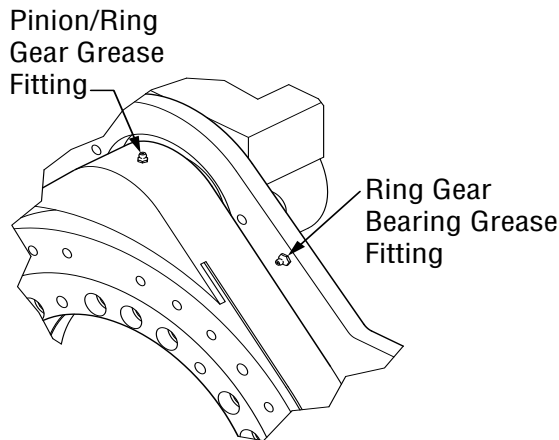

Figure 5-1, Grease Fitting Locations
4. To ensure proper greasing of gears and bearings, slowly rotate the ring gear 360° while greasing. This will allow grease to completely coat the gear. Gears must be fully greased, Figure 5-1. Also see Figure 6-1 for grease zerk locations.